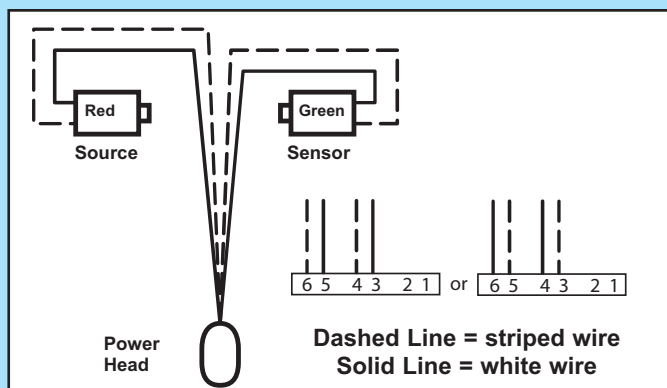

FIG. 4-5a Source and sensor wiring methods.
- Route wire from Safe-T-Beam® sensors to power head using method shown in (Fig. 4-5a).